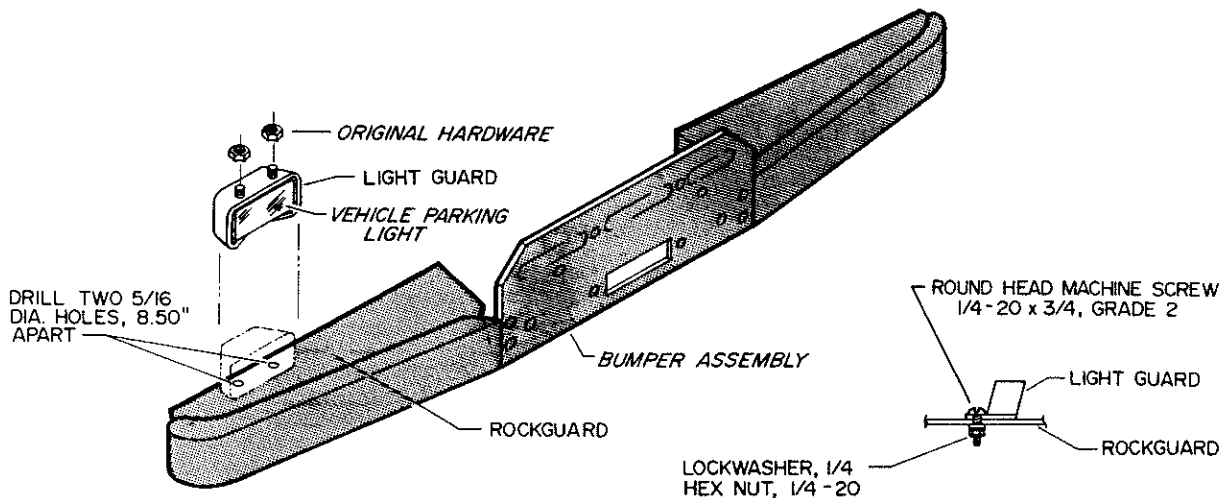

FIGURE 7
12. Two "Light Guard" brackets are furnished for use on certain models which have the original turn signal lights mounted in the bumper. The original light units and the brackets may be mounted on top of the rock guards with 1/4-20 x 3/4 round head machine screws, lock washers, and hex nuts. Holes must be drilled in the rock guards. (See Figure 7)